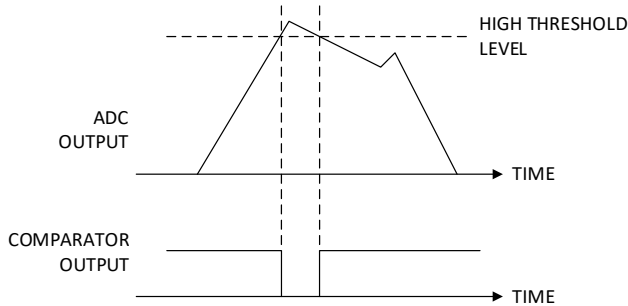

Figure 16. Comparator Behavior in Lower Than (LT) Output Mode
In lesser than (LT) output mode, when the ADC output is lower than or equal to the high threshold level, the comparator output is set high. The comparator output is set low when the ADC output is greater than the high threshold level. The behavior of the comparator in the LT output mode is shown in Figure 16.